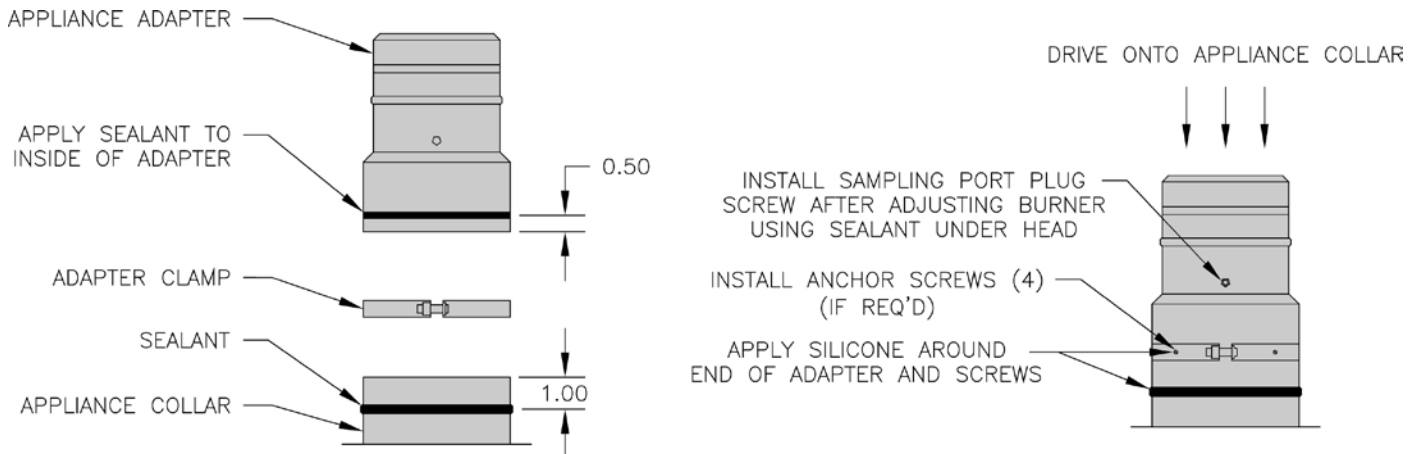

Figure 21: Appliance Adapter Installation
E. CONNECTING APPLIANCE ADAPTER TO BOILER FLUE OUTLET COLLAR (See Figure 21)